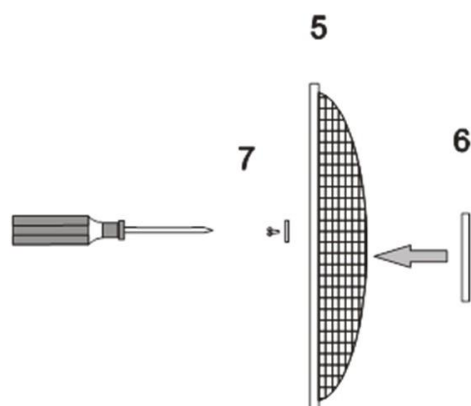

Fig 1
1. Screw the blade cover 10 to the front grid 6 (see Figure 1)